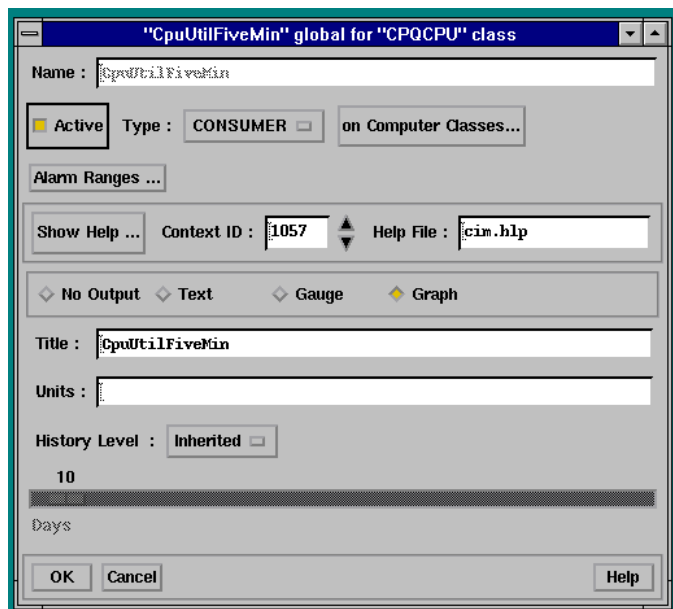

Figure 8-6. Window for making global parameter changes
- 5• Once the global parameter window is displayed, edit the parameter as desired. If for example, the parameter *CpuUtilFiveMin* was the parameter selected, the screen titled "*CpuUtilFiveMin*" global for "*CPQCPU*" class is displayed as shown in Figure 8-6.